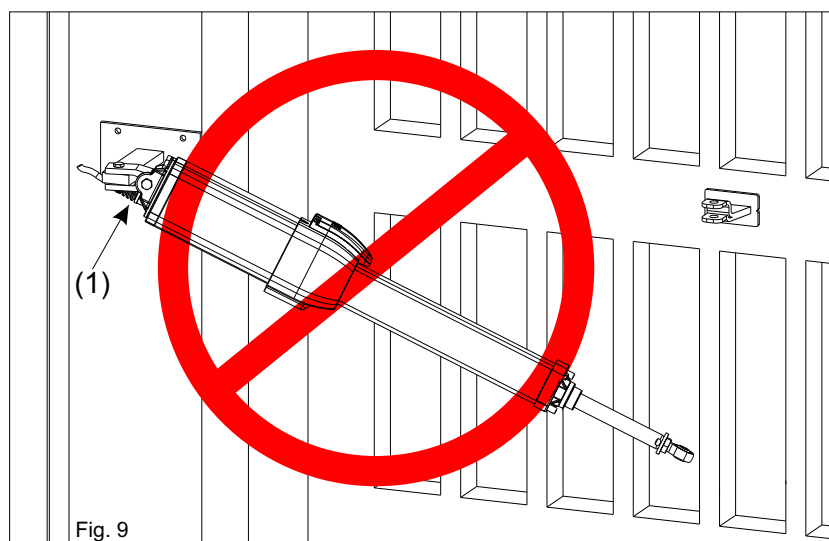

Fig. 9
- Fix the oscillating fork as in fig.9